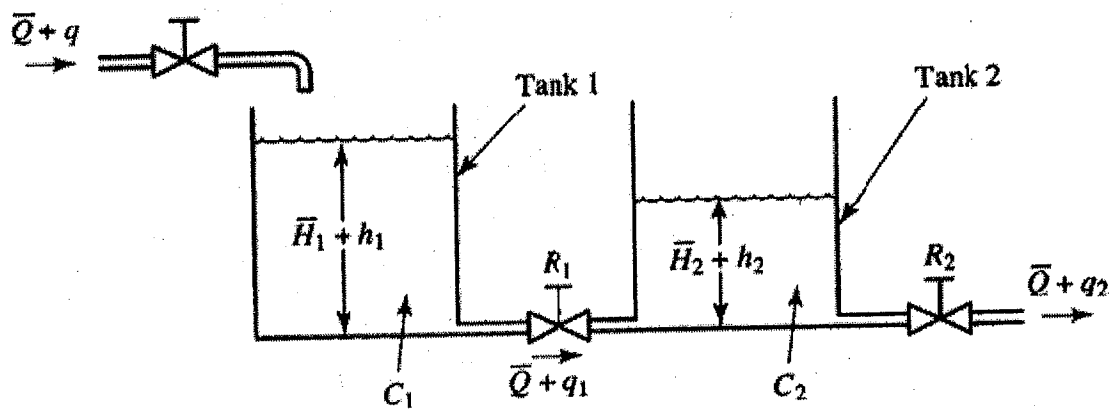

Fig Q1
1. Fig Q1 shows a Liquid level system. In this system, two tanks interact.
Assume only small variations from steady state value. Using the symbols as defined in the Fig Q1, obtain equations for this system. Use these equations to determine the transfer function for the system.